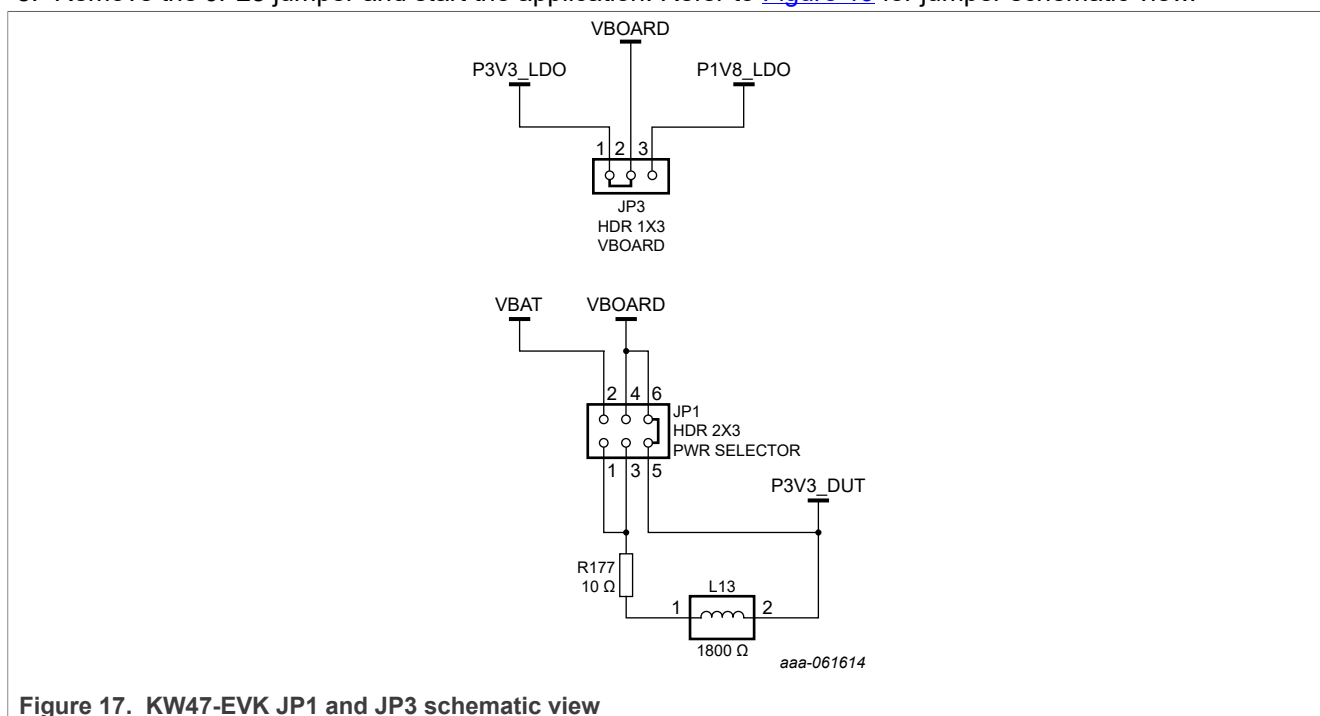

Figure 17. KW47-EVK JP1 and JP3 schematic view
6. Remove all jumper connections from JP1 and JP3 on the KW47-EVK board. Create a jumper connection between P3V3_LDO and VBOARD nodes for JP3. Create another jumper connection between P3V3_DUT and VBOARD nodes for JP1. Refer to Figure 17 for jumper schematic view.